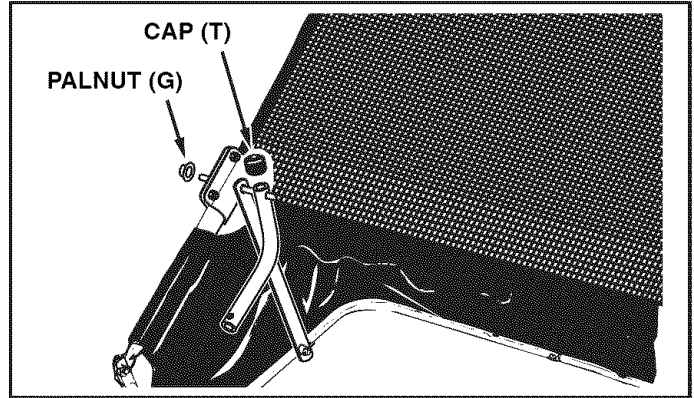

FIGURE 17
- Assemble a vinyl cap (T) onto each bag arm tube as shown in figure 17.
- Assemble two palnuts (G) onto the ends of the pivot rod using a hammer. See figure 17.